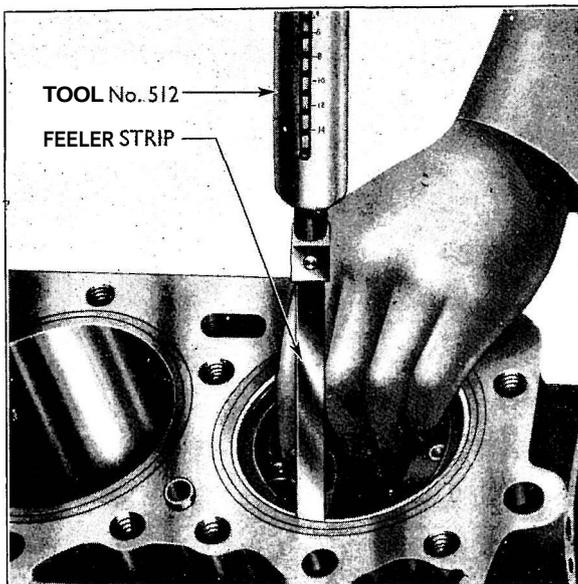

Fig. 25
14. Reverse the engine on the engine stand, and, if new pistons are being fitted, select the piston to suit the bore by using the poundage pull gauge, Tool No. 512, with a feeler strip 9 ins. (228.6 mm.) in length, 0.004 in. (0.102 mm.) thick and 0.5 in. (12.7 mm.) wide (see Fig. 25).